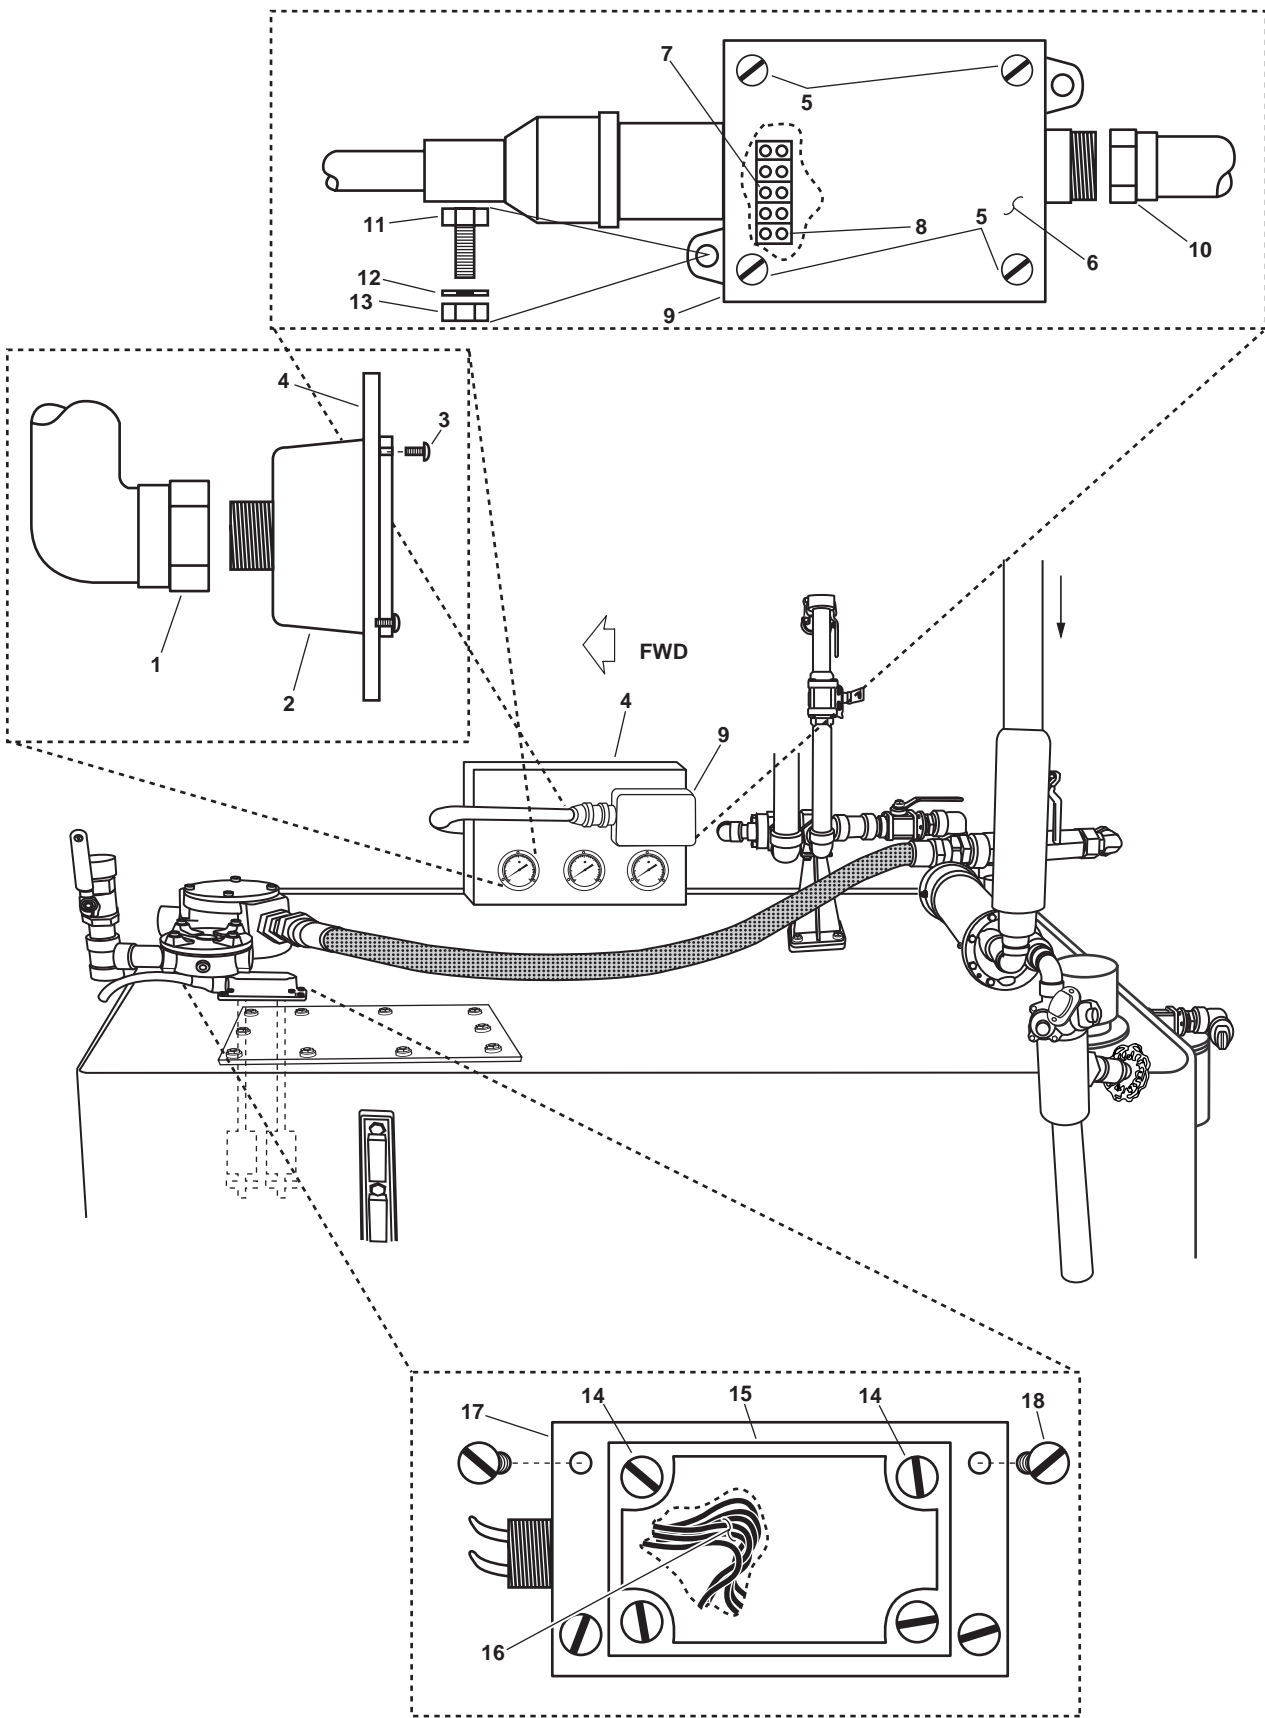

Figure 1. Towing Machine Hydraulic System Reservoir
2. Install a new gasket (figure 1, item 26) and the hand hole cover (figure 1, item 25) using six new lockwashers (figure 1, item 24) and six bolts (figure 1, item 23).
3. Install a new gasket (figure 1, item 22) and the access cover (figure 1, item 21) using ten new lockwashers (figure 1, item 20) and ten bolts (figure 1, item 19).
1. Remove the hydraulic fluid tubing (figure 1, item 1) from the back of the gauge (figure 1, item 2).
2. Remove the three machine screws (figure 1, item 3) from the faceplate of the gauge (figure 1, item 2).
3. Remove the gauge (figure 1, item 2) from the gauge mounting bracket (figure 1, item 4).
1. Install the new gauge (figure 1, item 2) into the gauge mounting bracket (figure 1, item 4).
2. Install the three machine screws (figure 1, item 3) into the faceplate of the gauge (figure 1, item 2).
3. Install the hydraulic fluid tubing (figure 1, item 1) on to the back of the gauge (figure 1, item 2).
1. Loosen the four captive screws (figure 1, item 5) on the pressure switch cover (figure 1, item 6). Remove the pressure switch cover.
2. Use a multimeter to check the wiring (figure 1, item 7) on the terminal block (figure 1, item 8) for voltage. If voltage is present, ensure that the appropriate circuit breaker is secured, locked out, and tagged out (FM 55-502). If voltage is not present, continue with the procedure.
3. Label and remove the wiring (figure 1, item 7) from the terminal block (figure 1, item 8).
4. Remove the wiring (figure 1, item 7) from the pressure switch (figure 1, item 9).
5. Remove the hydraulic fluid tubing (figure 1, item 10) from the pressure switch (figure 1, item 9).
6. Remove the two bolts (figure 1, item 11), the two lockwashers (figure 1, item 12), and the two nuts (figure 1, item 13) from the pressure switch (figure 1, item 9). Discard the lockwashers.